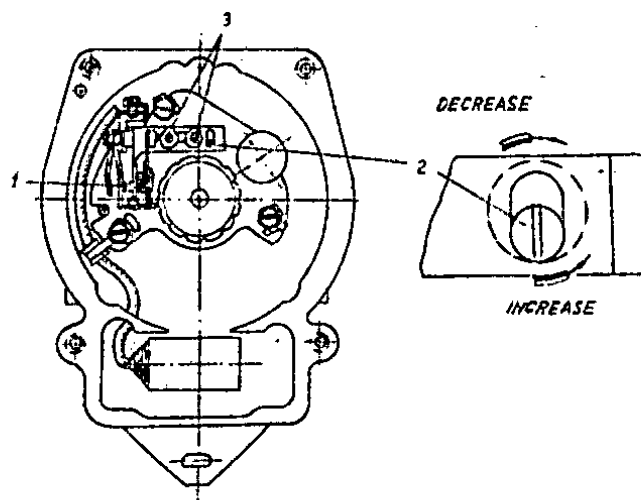

Fig. 19. Adjusting the magneto breaker contact points gap.
1. To adjust the breaker contact points gap, loosen two screws 3 fastening the breaker plate (Fig.19) and, turning the eccentric screw 2, adjust the gap with the pad on the cam lug, then tighten the screw 3. The gap between the contact points should be within 0.2 and 0.3 mm.